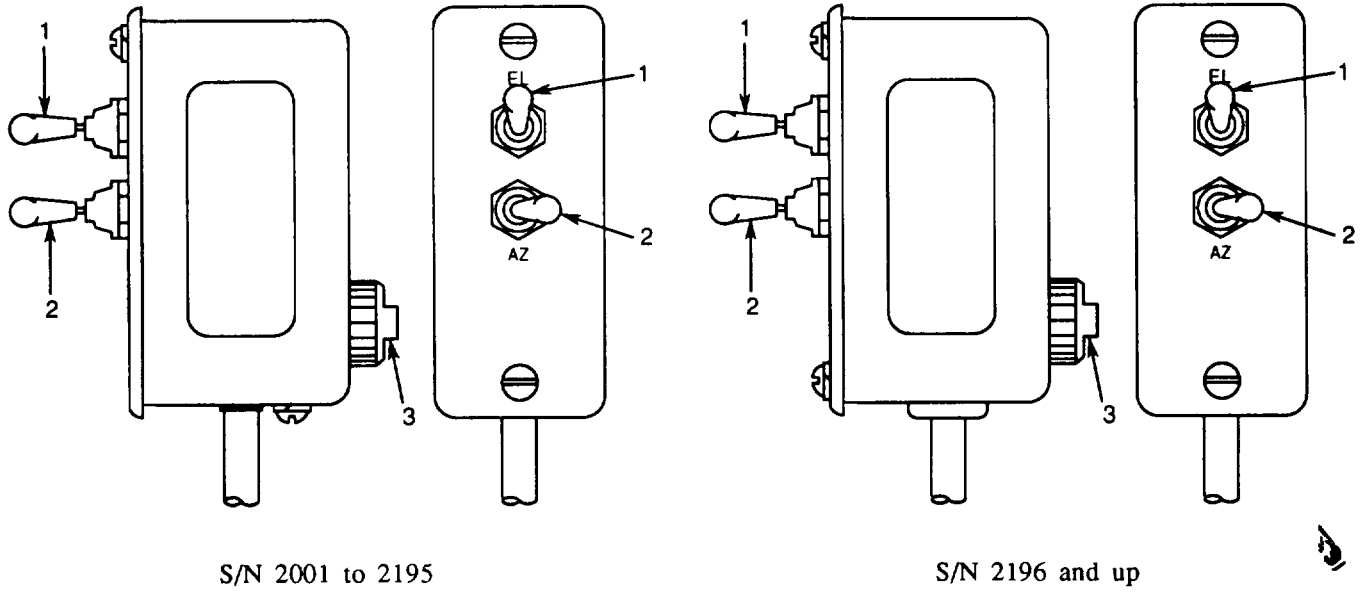

Figure 2-2. RPC Controls.
*c. Day/Night Sight Collimator* Positioning of day and night test targets generated by the D/NSC is controllable by the operator using the remote position control (RPC). The controls on the RPC, shown in figure 2-2, are described in table 2-2.